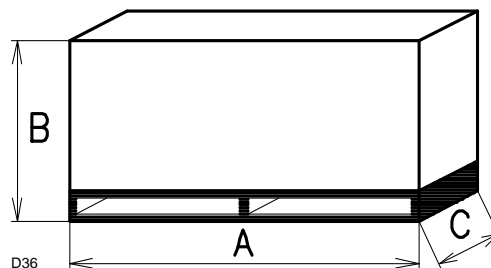

Fig. 1
- The packaging of the burner (Fig. 1) rests on a wooden platform that is particularly suitable for lift trucks.